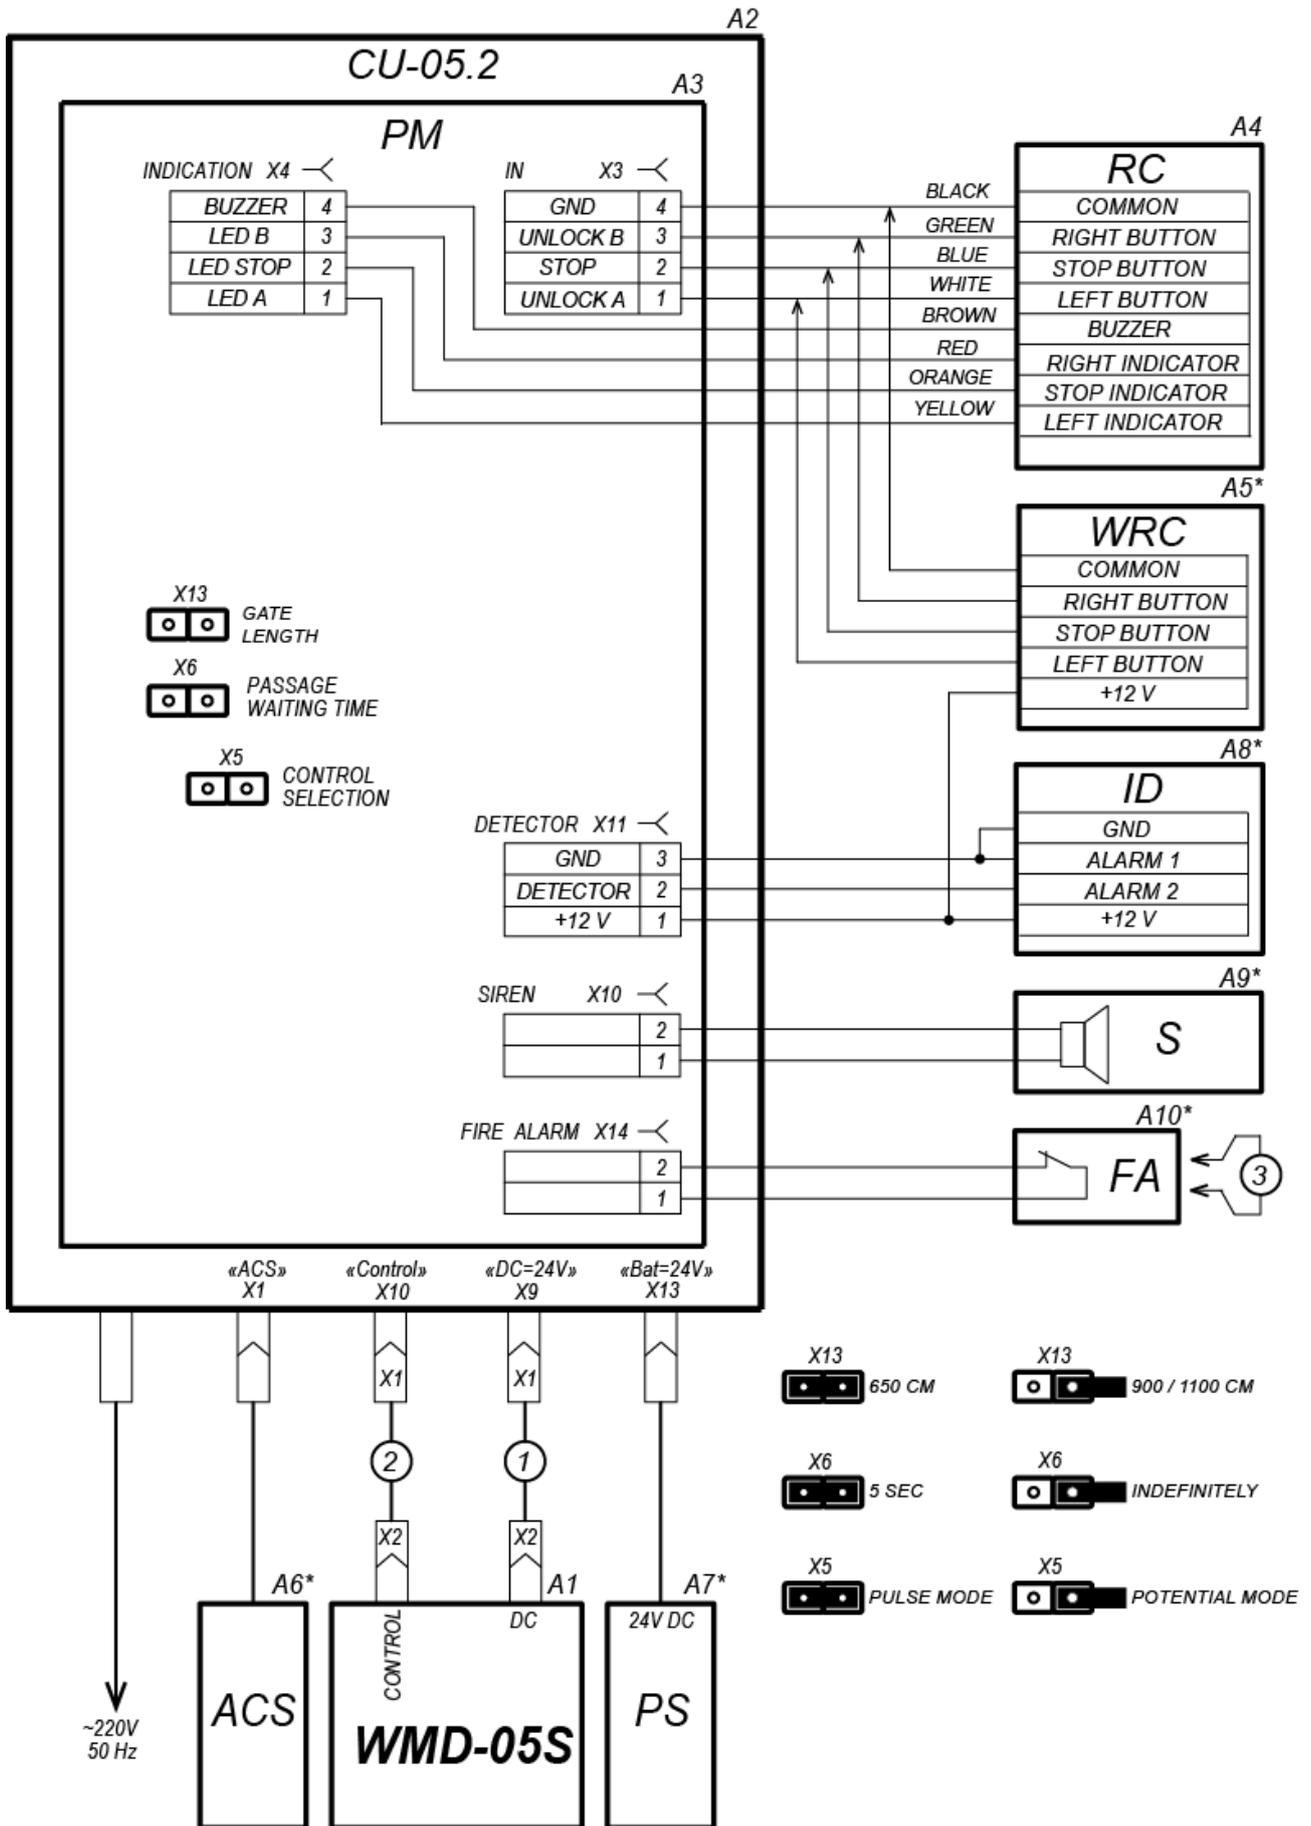

Figure 7 WMD-05S Wiring diagram
- Pull the RC panel cable (12) through the RC cable entry inside the CU and connect to the X3, X4 connector blocks of the processor module (Fig. 7).
11. Connect an emergency unlocking device. To do so pull the cable through the cable inlet "ALARM" inside the CU, remove the jumper from the connector block X14 of the processor module and connect the cable in accordance with Fig. 7.
12. Connection of an intrusion detector* and a siren* to the CU (8) is carried out in accordance with Figure 7. The equipment location depends on the entrance layout.
14. Set the required operating modes of the swing gate by installing or removing jumpers on the processor module in accordance Figure 7. On delivery, all jumpers are set.
- disconnect the power cable (13) from the mains;
- change the wires of the RC panel cable (12) on the connector blocks X3, X4 of the CU processor module (Fig. 7) in the following way: the white wire with the green one and the yellow wire with the red one, i.e. connect the wires as follows: